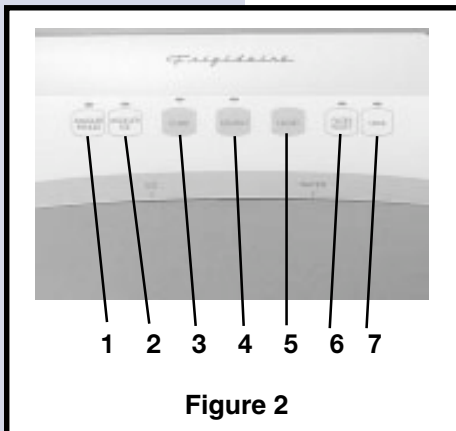

Figure 2
7. Rotate Drive Bar and Nut (located on front of Motor Cover) in counterclockwise position until it comes free of Auger Motor shaft. (See Figure 2.)
Seven Selection Dispenser: (See Figure 2.)